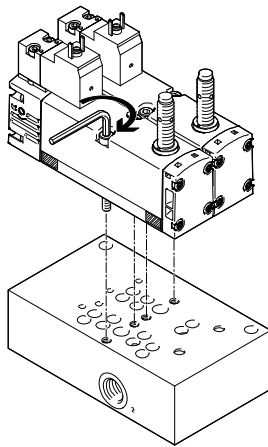

Fig. 11 Mounting the solenoid valves on the control block
7. Place the solenoid valve on the control block (→ Fig. 11) and tighten the 2 mounting screws with an Allen key SW3 (permissible torque: $2 \text{ Nm} \pm 10 \%$).